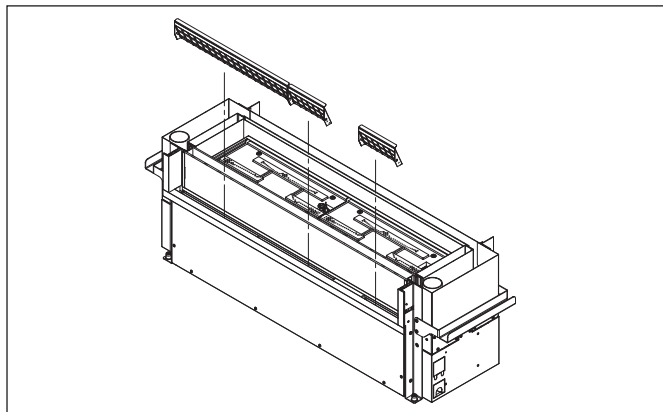

FIG 50 Filter removal. Note: the top half of the heater has been omitted from image for clarity.
1. Reach between fascia and front glass to locate filters (see FIG 50).